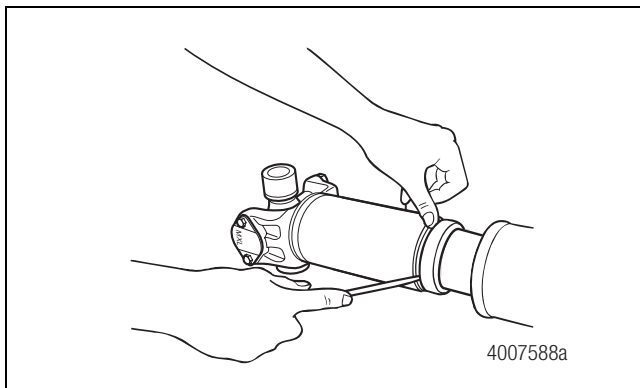

Figure 3.4
2. Use a screwdriver to pry the seal out of the groove in the slip yoke. Figure 3.4.